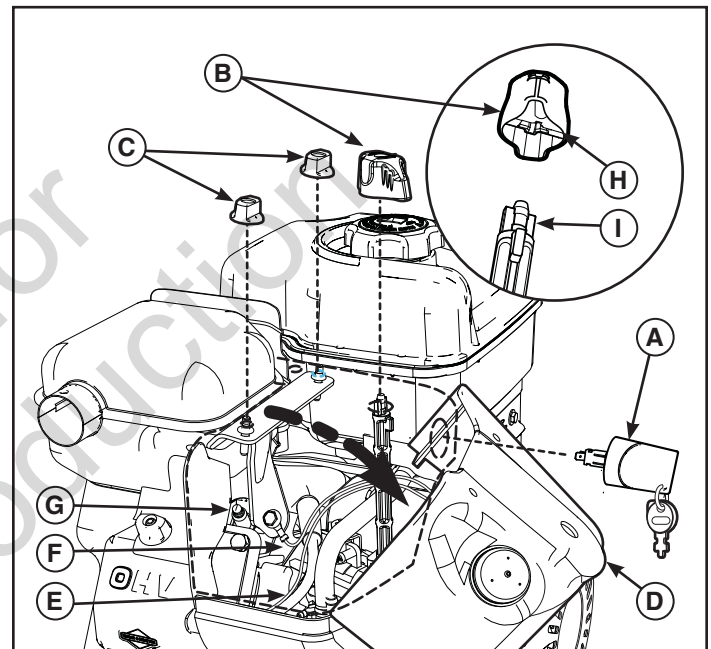

Figure 14
4. Remove the dipstick (C, Figure 14) and wipe with clean cloth.
5. Pour the oil slowly into the engine oil fill (D). DO NOT overfill. Wait one minute and recheck the oil level.
7. Remove the dipstick and check the oil level. It should be at the top of the full indicator (E) on the dipstick.